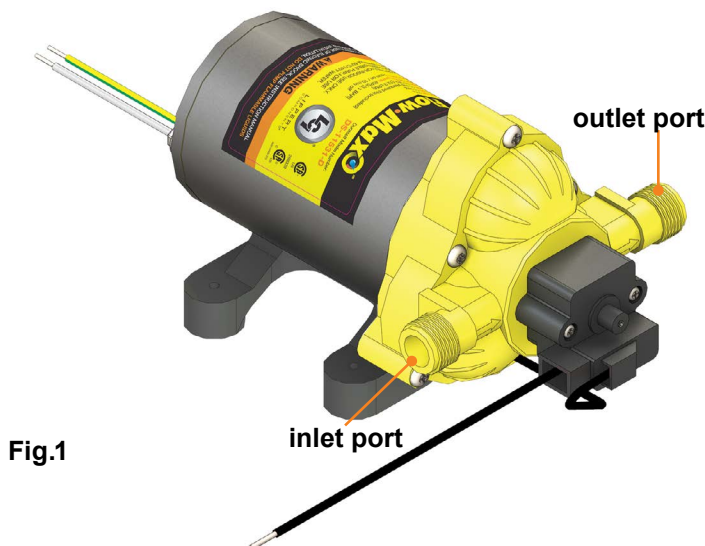

Fig.1
1. Install in-line screen (**Fig.2A**) on the inlet side of the pump (**Fig.1**) to prevent debris from entering the pump.
2. Using the supplied ½" swivel connectors (**Fig.2B**), connect flexible, high-pressure hoses to both the outlet port of the pump (**Fig.1**) and the inlet port of the in-line screen (**Fig.2A**).